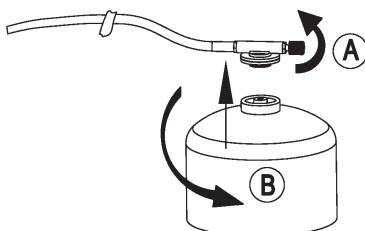

Figure 1
**CONNECT THE GAS CARTRIDGE (FIGURE 1 , PAGE 13)**
(1) As shown in **Figure 1-A**, turn the control knob ⑪ clockwise until it stops (the arrow points to "-"), to close the gas connection.
(3) As shown in **Figure 1-B**, tighten the gas cartridge (counter clockwise) and the fuel gas connector.